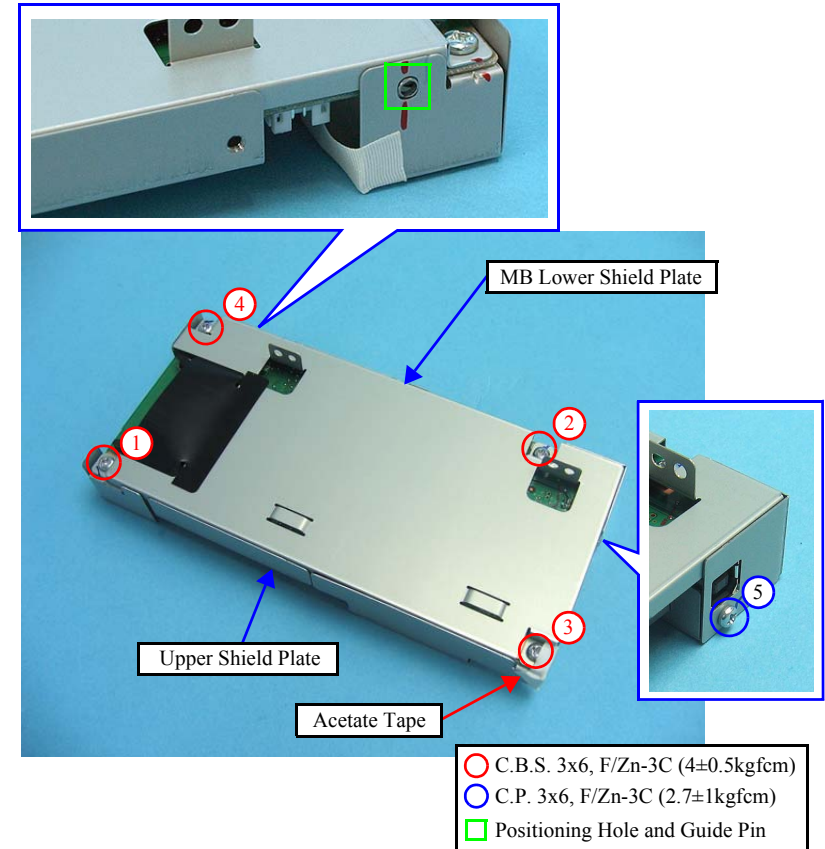

Figure 4-130. Removing the Main Board (1)
- Align the positioning hole of the Main Board with the guide pin of the MB Lower Shield Plate as shown in Figure 4-130.
- When installing the MB Lower Shield Plate, make sure that the Upper Shield Plate is set over the MB Lower Shield Plate as shown in Figure 4-130.